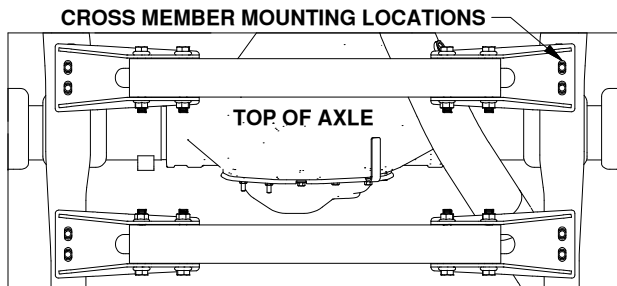
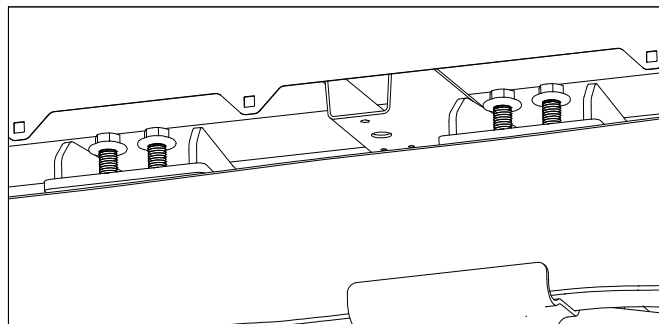

Figure B1: View looking down over truck frame (bed not shown).
Figure E1: View looking into passenger side wheel well.
1. **Cross member installation location.** The cross members for this hitch installation are designed to rest on top of the truck frame and mount to existing threaded holes on the top of the frame rail. To make installation as easy as possible, locate and familiarize yourself with these threaded holes before installing the cross members. See Figure B1 for a top down view of the frame with the cross members installed.
2. **Locate parts and hardware.** Locate the two cross members and the four cross member brackets. These will be assembled together using 5/8" x 4-1/2" flange bolts and 5/8" flange nuts, see Figure B1.
1. **Install M14 bolts.** Locate the eight M14 X 35mm flanged head bolts. Pass each bolt through the cross member brackets and into the threaded holes in the frame as shown in Figure E1. Refer back to Figure B1 for frame bolt locations. Do not fully tighten hardware connections at this time.